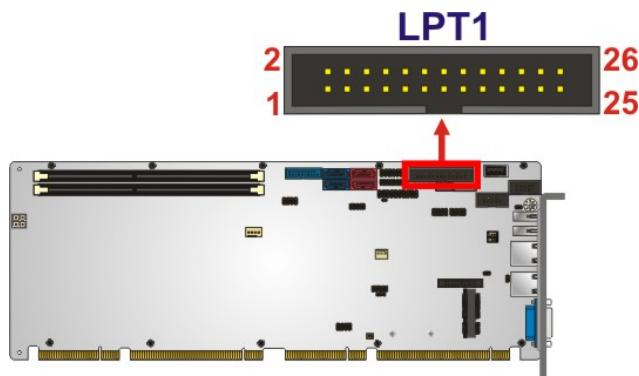

Figure 3-17: Parallel Port Connector Location
**CN Location:** See Figure 3-17